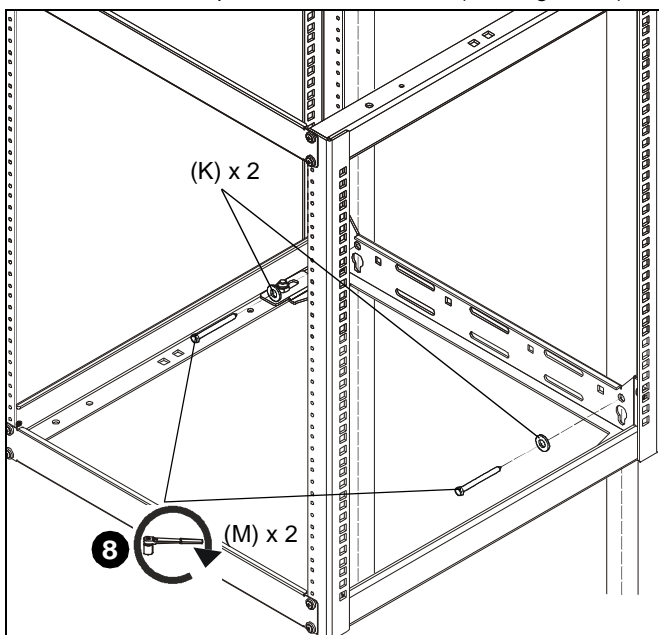

Figure 13
8. Use two 5/16" x 3 1/2" lag bolts (M) and two 3/4" spacers (K) to secure lower part of bracket to wall. (See Figure 13)